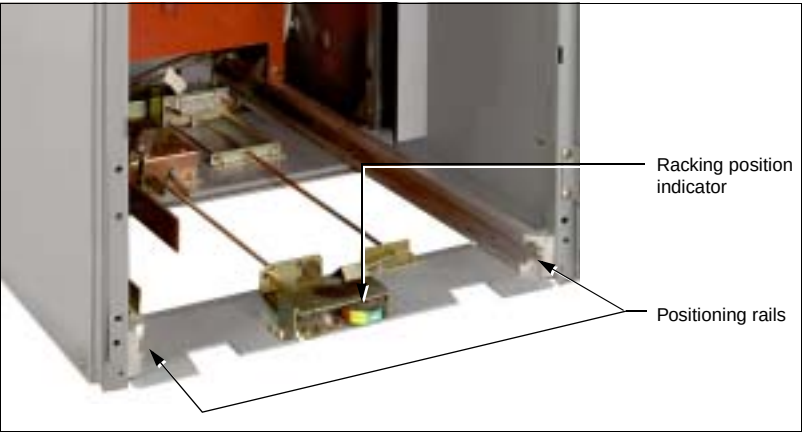

Figure 42: MASTERCLAD Switchgear Circuit Breaker Compartment
2. Verify that the racking position indicator (see Figure 42) reads “TEST/DISCONNECT”.
4. Align the G&T device rollers with the positioning rails (see Figure 42) mounted on the side walls of the circuit breaker compartment.